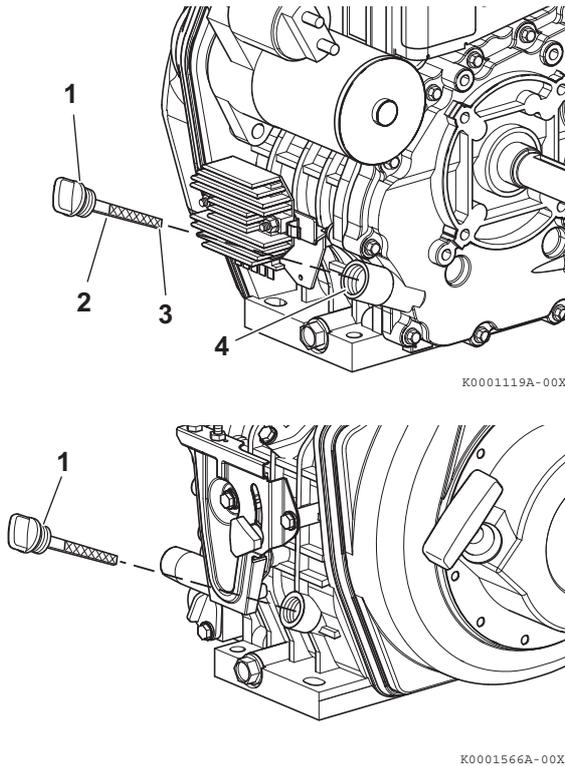

Figure 3
2. Remove oil cap/dipstick (**Figure 3, (1)**) from either location and wipe with clean cloth.
4. Remove oil cap/dipstick. The oil level should be between upper (**Figure 3, (2)**) and lower (**Figure 3, (3)**) lines on the oil cap/dipstick.
5. Fully reinsert oil cap/dipstick (**Figure 3, (1)**) and hand tighten. Over-tightening the oil cap/dipstick will damage it.
2. Remove oil cap/dipstick (**Figure 3, (1)**).
3. Add indicated amount of engine oil at either one of the engine oil filler ports (**Figure 3, (4)**).
6. Fully reinsert oil cap/dipstick (**Figure 3, (1)**) and hand tighten. Over-tightening the oil cap/dipstick will damage it.